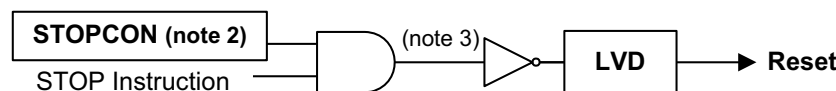

Figure 60. RESET Block Diagram by LVD for the S3F80P5 in Stop Mode
2. The CPU can enter Stop Mode by setting Stop Control (STOPCON) Register to 0A5h before executing the STOP instruction. See Figure 60.
3. The signal is output relating to Stop Mode. If STOPCON is set to 0A5h, and the Stop instruction is executed, the output signal forces the S3F80P5 to enter Stop Mode. There are two statuses; one is Stop Mode, the other is not Stop Mode. See Figure 60.